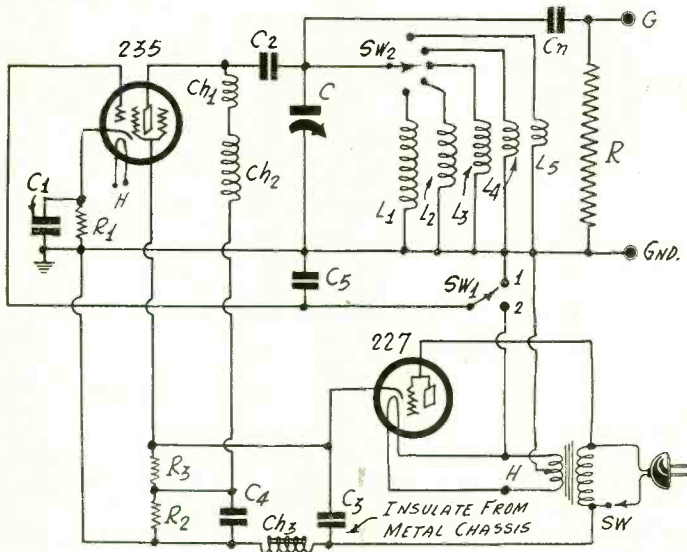
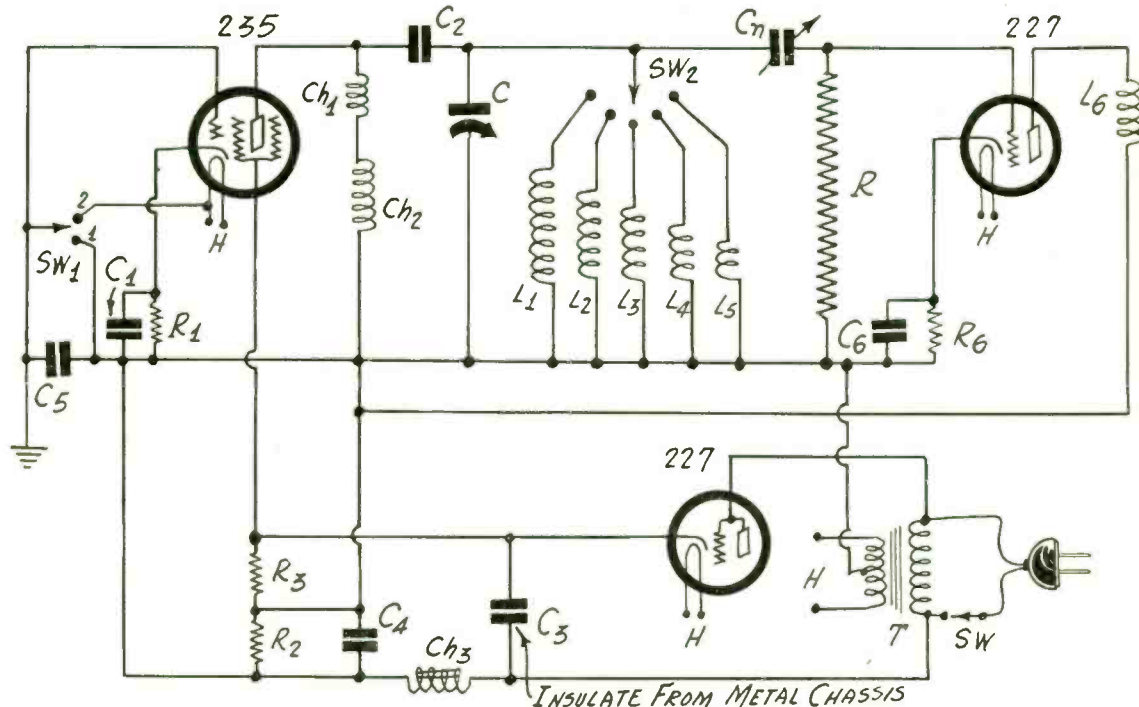

FIG. 1
FIG. 2
In Fig. 1 we show a typical oscillator of this type together with a simple B supply which will deliver sufficient power to operate the circuit. Provision is also made for modulating the oscillations generated as well as for taking off the oscillations without putting a heavy load on the tube. If too much energy is taken from the tube oscillation stops and for that reason it is important to couple the oscillator to the circuit in which the
In making an oscillator of this kind it is important that the rotor of the tuning condenser be grounded. At the same time it is important to arrange the circuit so that there is no possibility of shorting the high voltage by means of the tuning condenser. The arrangement shown in Fig. 1 achieves these results.
- R3—One 13,000 ohm resistor (for Fig. 1) or 10,000 ohms (for Fig. 2)
- Three UY sockets (two for Fig. 1)
The same dynatron oscillator as in Fig. 1 but with a stage of radio frequency amplification to reduce the load on the dynatron.
In Fig. 2 is the same circuit as in Fig. 1 except that an amplifier has been added. This addition necessitates a few changes in the voltage divider. The resistance of R2 remains at 10,000 ohms since we have not changed the current in it. But R3 requires a different value. If the added tube takes a current of 2.5 milliamperes, the total current in R3 will be 10 milliamperes. Hence to drop 100 volts in it we need a resistance of 10,000 ohms.
On the basis of 165 mmfd. maximum and 25 mmfd. minimum the capacity ratio of the tuner is 6.6. The frequency ratio is the square root of this, or 2.57. Therefore, if a coil be designed so that its lowest frequency is 550 kc., the highest frequency will be 1,410 kc. The tuner with the 150 mmfd. condenser will not cover the broadcast band even in the most favorable circumstances. But in a calibrated oscillator this does not matter just so the coils are chosen to have some overlap, and it is particularly unimportant in the dynatron oscillator shown in Figs. 1 and 2 because the frequency can be changed by turning a switch.